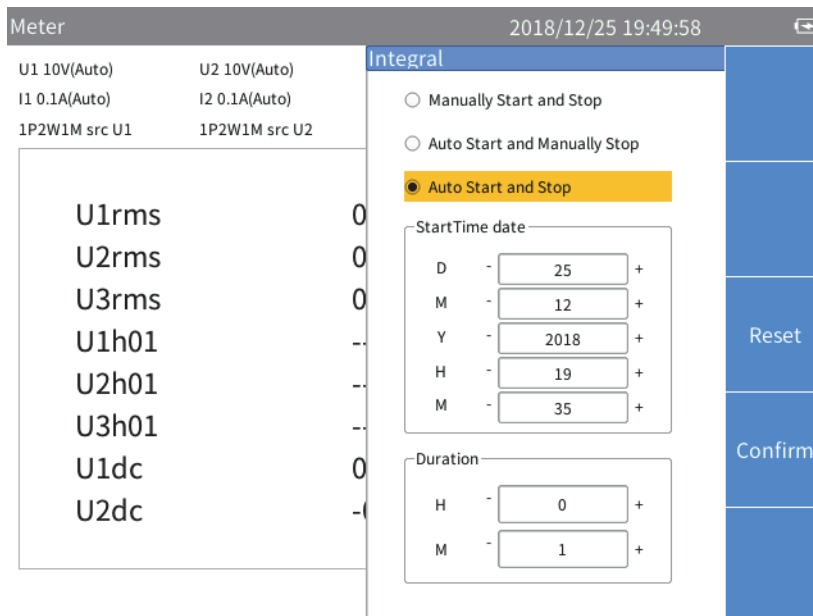

Figure 15. Auto Start and Auto Stop
- o Set the auto start date, time, and Duration and push **F4** (**Confirm**) (See Figure 15.)